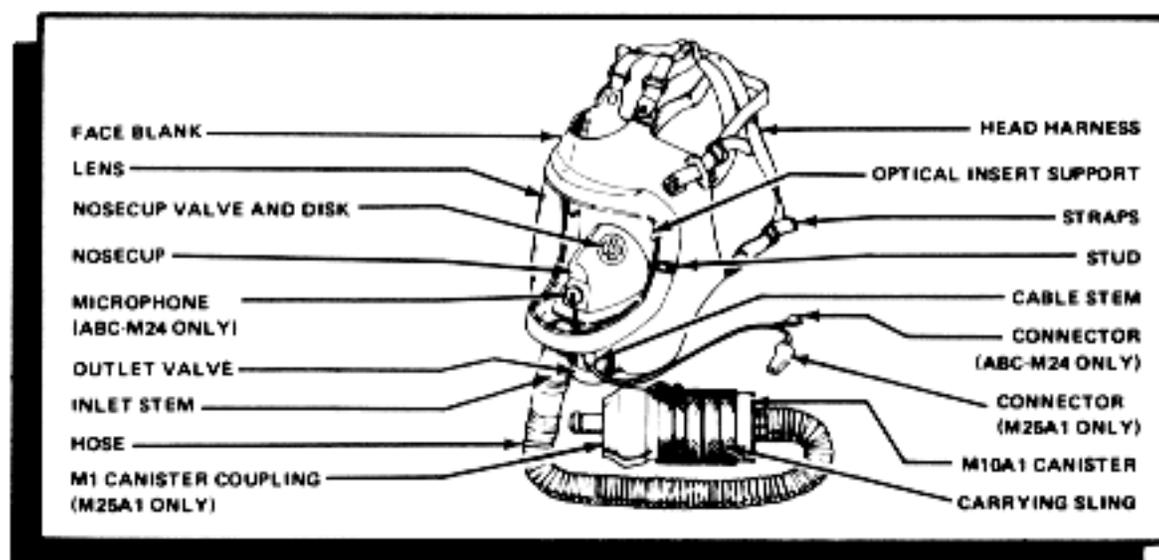

Figure 2-11. ABC-M24 and M25A1 mask.
**M25/M25A1 Tank Chemical/Biological Mask.** The M25/M25A1 masks (figure 2-11) are specially designed for crews of armored vehicles. Like the M17 series masks, these masks protect against all known chemical and biological agents in vapor or aerosol form. The only difference between the two masks is that the M25A1 has a higher forehead tab. When used in a tank or other armored vehicle, the mask is connected to a filter unit which forces temperature-conditioned air to the facepiece. This increases protection and reduces stress when worn in hot weather. When the mask is worn outside the tank, the wearer inhales air through the M10A1 cannister. A microphone assembly in the mask allows the wearer to communicate through the vehicle communications system. Accessories include the ABC-M5 mask hood, M3 winterization kit, antifogging kit, and optical inserts. The mask
**ABC-M24 Aircraft Chemical/Biological Mask.** This mask (figure 2-11) protects personnel while in aircraft or on the ground against all known chemical and biological aerosols and vapors. It can be attached to the aircraft oxygen supply system by using an M8 adapter kit. The facepiece is not force ventilated as it is for the tank mask. A microphone assembly is in the nosecup. Accessories for this mask include an antifogging kit, M2 antiglare eyelens outsert, M3 winterization kit, M7 hood, and optical inserts when needed.